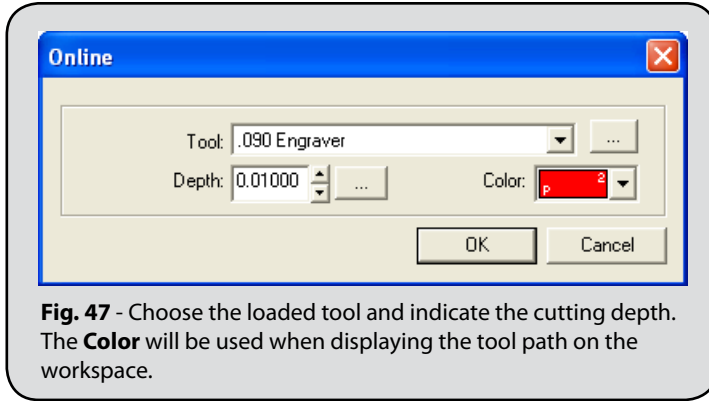

Fig. 47 - Choose the loaded tool and indicate the cutting depth. The **Color** will be used when displaying the tool path on the workspace.
4. The **Online** dialog will open. For this example, a 0.005 1/4" Engraver was used, and the **Depth** was set to 0.01" (Fig. 47).